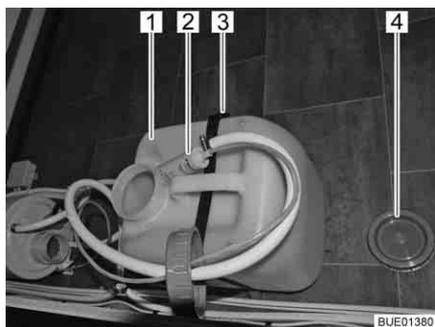

Fig. 179 Water tank 16 l
When transporting the water tank, close it with the cap (Fig. 179,4).
- Pull the water pump (Fig. 179,2) out of the water tank (Fig. 179,1).
- Release the retaining strap (Fig. 179,3).